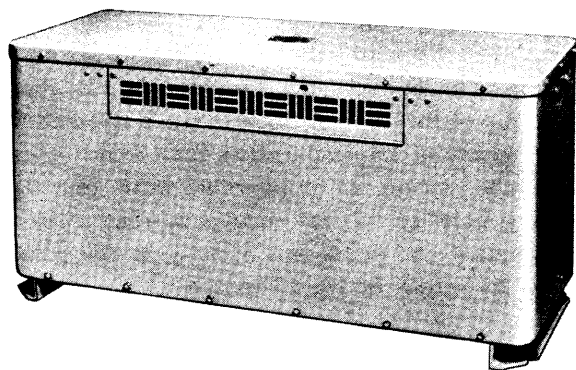

**Figure 1-7. Power Control C-587A/FRT-5,
(3) **POWER CONTROL C-587A/FRT-5.** — (Refer to figure 1-7.) — Power Control C-587A/FRT-5 includes the line input terminals for the 230-volt power supplying all parts of the transmitter, except high voltage plate supply transformer T1701. It consists of a heavy-gauge sheet-metal cabinet with a large front access door, and includes the following components: a fused three-phase circuit to the transmitter for